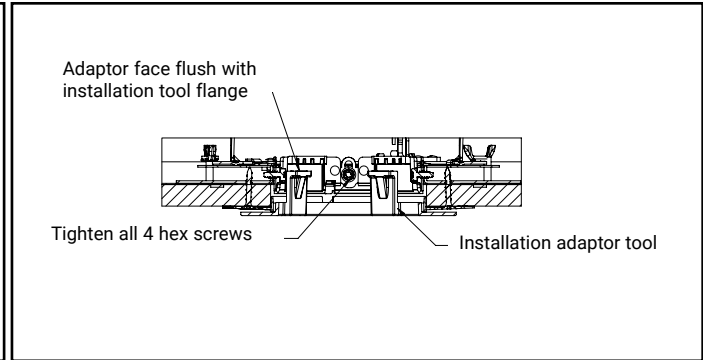

Figure 6.
15. Push the installation adapter tool (see Fig. 6) flush against the ceiling (in case of millworks) /mud-in ring (in case of plaster ring) to ensure the installation tool top flanges are resting against flat face on the knife edge adapter where magnets are installed.